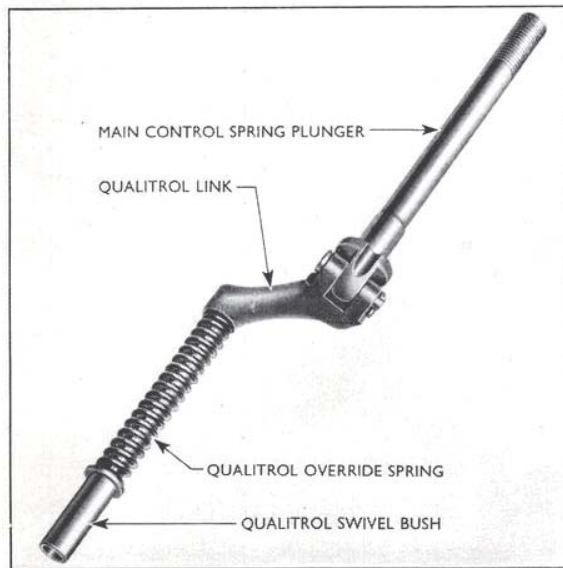

Fig. 33
5. Assemble the main control spring plunger to the qualitrol link with the slot in the plunger facing away from the fork in the link and secure with a clevis pin and split pin. Assemble the qualitrol override spring and bush to the qualitrol link assembly with the flange on the bush adjacent to the spring. (See Fig. 33.)